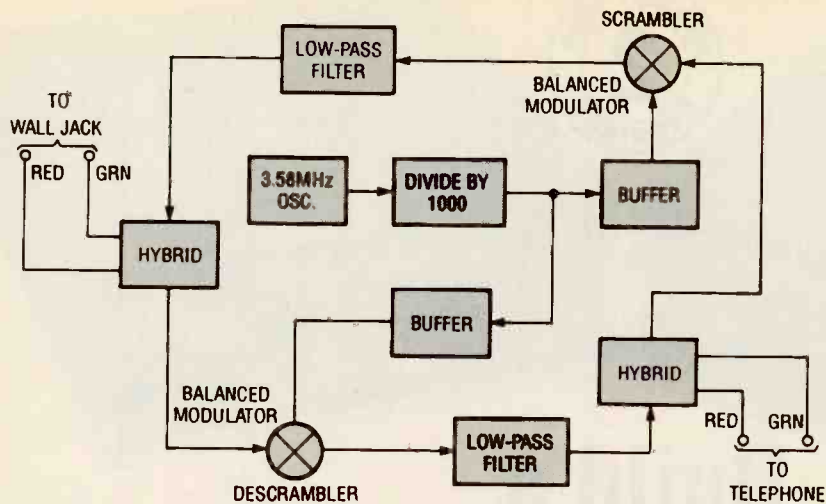

Fig. 1. The Telephone Scrambler scrambles all outgoing dialog from the telephone, while it descrambles all incoming dialog from the telephone line.
**About the Circuit.** Figure 1 shows a functional block diagram of the Telephone Scrambler. The circuit is comprised of two hybrid networks, two low-pass filters, two balanced modulators,